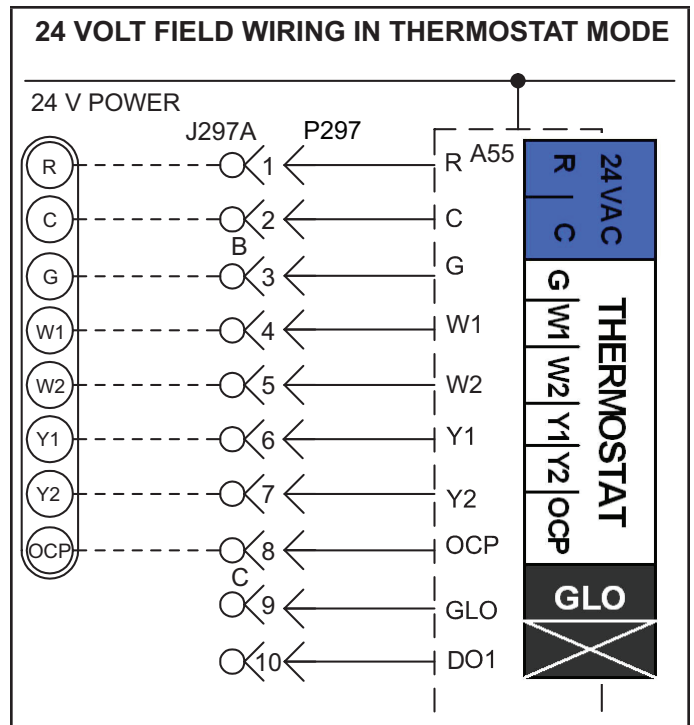
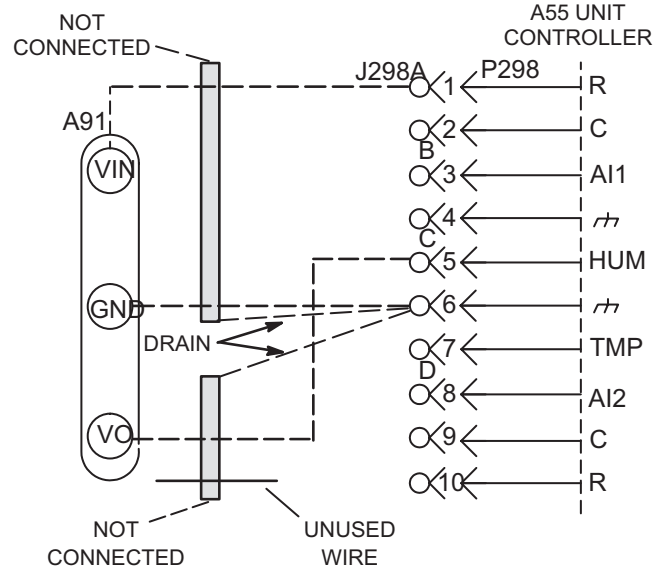
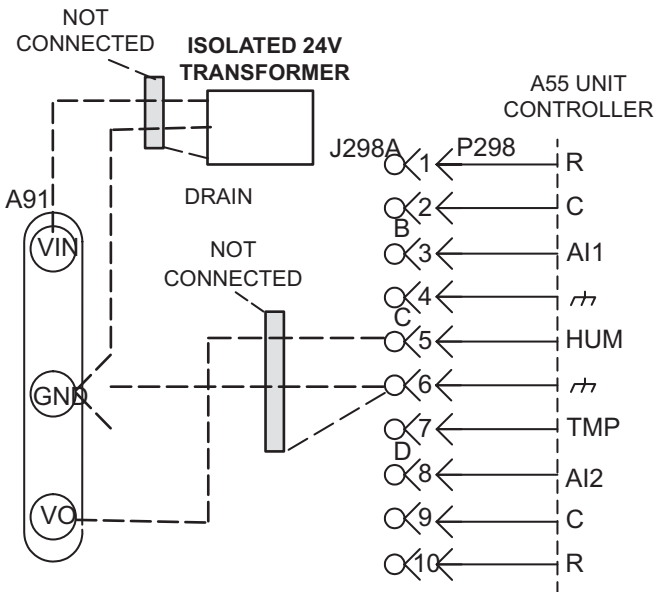

FIGURE 15
FIGURE 18
FIGURE 19
- 4 - Wire as shown in FIGURE 15 for electro-mechanical and electronic thermostats. If using other temperature control devices or energy management systems see instructions and wiring diagram provided by manufacturer.
- 2 - Make wiring connections as shown in FIGURE 15 for Thermostat Mode or FIGURE 16 for Zone Sensor Mode. In addition, connect either a humidity sensor or a dehumidification input. See FIGURE 18 or FIGURE 19 for humidity sensor wiring or FIGURE 17 for dehumidification input wiring.
Use two separate shielded cables containing 20AWG minimum, twisted pair conductors with overall shield. Belden type 8762 or 88760 (plenum) or equivalent. Connect both cable shield drain wires to the Unit Controller as shown in FIGURE 18.
Use two separate shielded cables containing 18AWG minimum, twisted pair conductors with overall shield. Belden type 8760 or 88760 (plenum) or equivalent. Connect both cable shield drain wires to the Unit Controller as shown in FIGURE 18.
Use a local, isolated 24VAC transformer such as Lennox cat #18M13 (20VA minimum) to supply power to RH sensor as shown in FIGURE 19. Use two shielded cables containing 20AWG minimum, twisted pair conductors with overall shield. Belden type 8762 or 88760 (plenum) or equivalent.